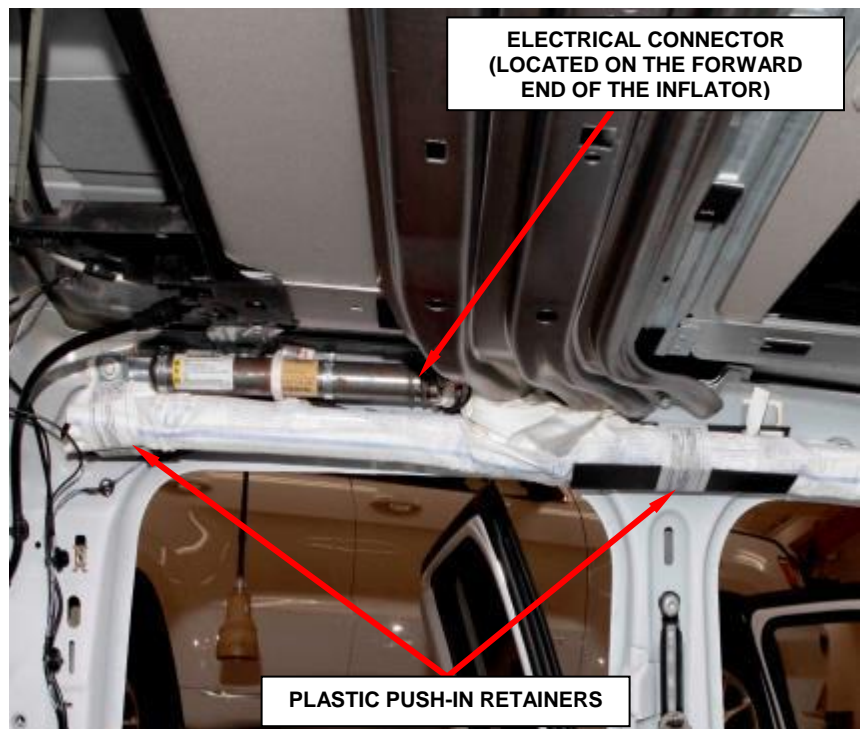

Figure 27 - Plastic Push-in Retainers
3. Disengage the two plastic push-in retainers that secure the side airbag inflatable curtain to the inner roof rail (Figure 27).
4. The body wire harness electrical connector is secured by integral latches to the connector receptacle at the rear of the inflator. Pinch both latches firmly, then pull the insulator straight out from the airbag inflator to disconnect it from the connector receptacle (Figure 27).
11. Connect the body wire harness electrical connector for the side airbag inflatable curtain to the connector receptacle at the back of the inflator. Be certain that each connector is fully engaged in its receptacle by listening carefully for a distinct, audible click as each connector latch snaps into place (Figure 27).
12. Align the two plastic push-in retainers that secure the side airbag inflatable curtain with the holes in the inner roof side rail and push it straight in until they are fully seated (Figure 27).